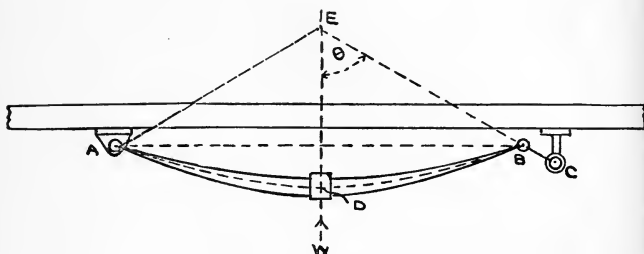

Fig. 3.
5. Fig. 3 illustrates a spring attached to a frame by means of an inclined link BC . AB is 50 inches and the point D is 8 inches below AB . Determine the bending moment at the mid-section of the spring when the link BC makes an angle θ with the vertical, and examine the value of θ which makes this bending moment a minimum.